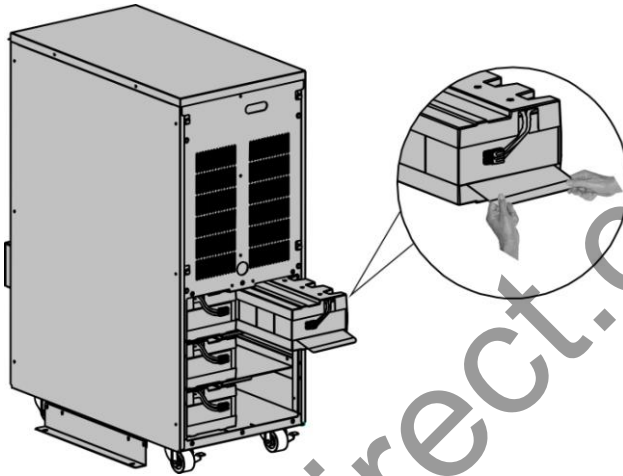

Fig. 8-3 Battery easy replacement-Step 3
3) Remove the battery pack from the cabinet. See Fig. 8-3.